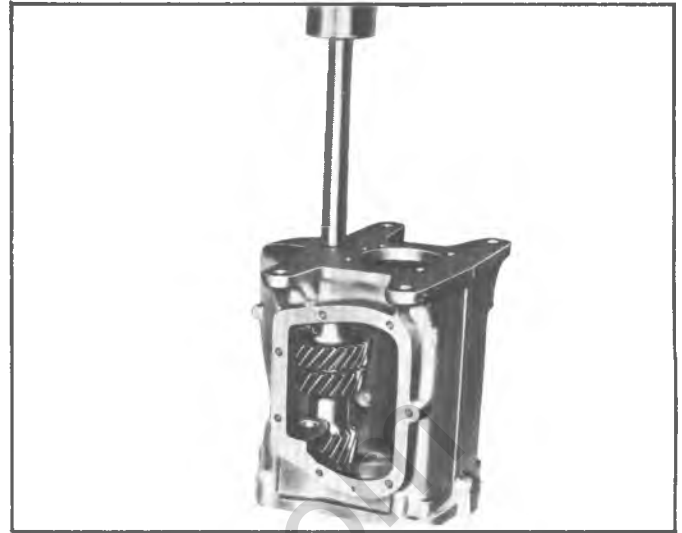

Fig. 8B--Removing Countershaft
13. From the front of the case, press out the countershaft (fig. 8B) using Tool J-22379; then remove the countergear and both tanged washers.